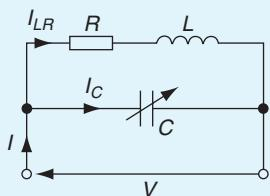

Figure 16.11
6. A parallel circuit as shown in Fig. 16.11 is tuned to resonance by varying capacitance  $C$ . Resistance,  $R = 30 \Omega$ , inductance,  $L = 400 \mu\text{H}$ , and the supply voltage,  $V = 200 \text{ V}$ ,  $5 \text{ MHz}$ .